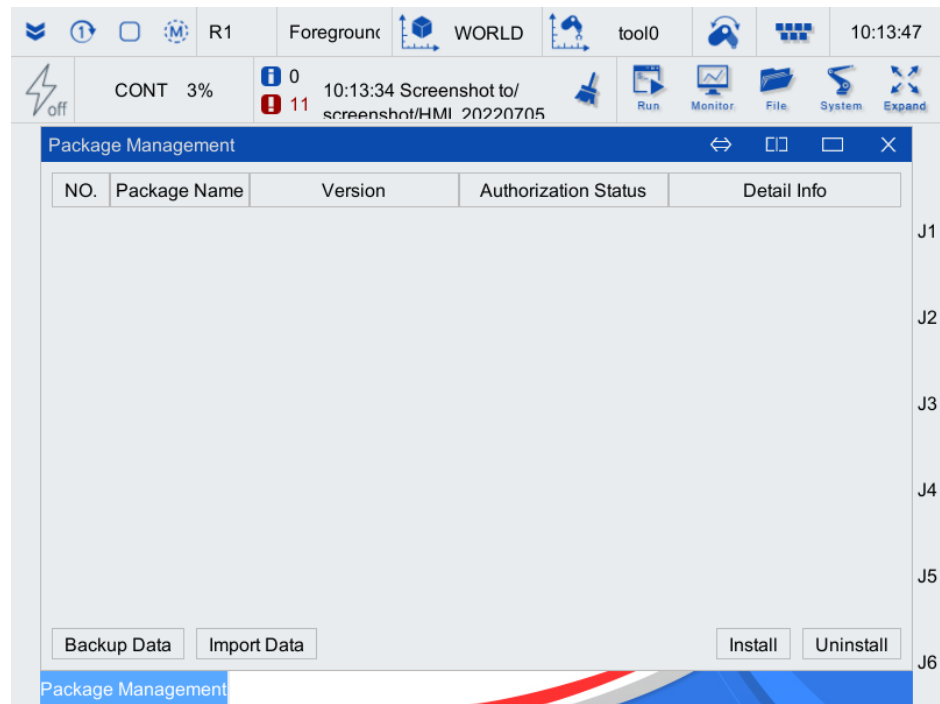

Figure 4-2 Management interface of feature pack
- Step4. Click "Package Management" to pop up the package management interface shown in Figure 4-2.